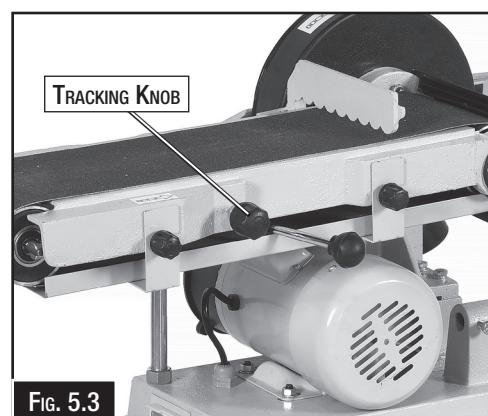

Fig. 5.3
3. Turn the tracking knob clockwise to move the belt towards the tracking knob and counter-clockwise to move the belt away. (Fig. 5.3)